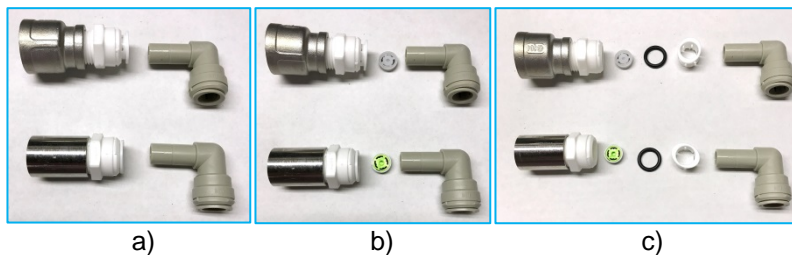

Fig. 4
5. The DLFC (Figure 4) is mounted internally in the coupling on the lower connection of the Reject Flow Meter, and has been designed to give a constant system recovery rate at 130 psi operation pressure, @ 15 C water temperature.